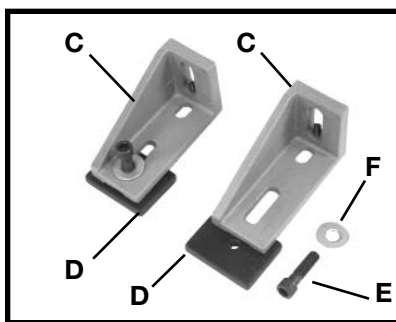

Fig. 4
3. Position clamping plate (D) Fig. 4 under mounting brackets (C) and fasten with two M12 x 45mm hex socket head screws (E) and 16mm x 41mm flat washers (F). Tighten screws just enough to hold assembly together. Remove tailstock from the machine.